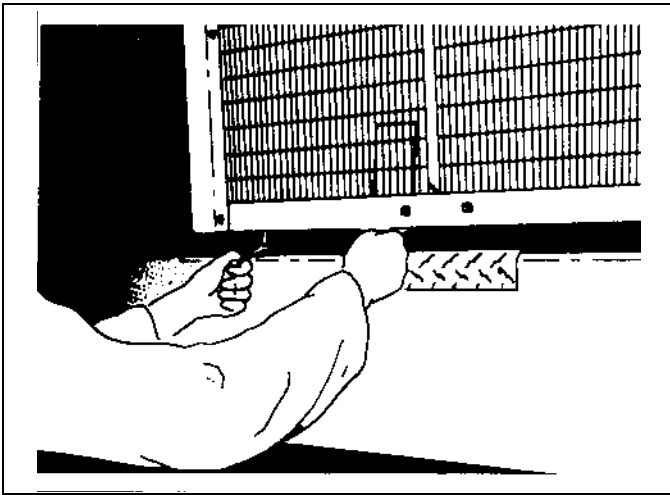

Figure 12-13 Linkage Adjustment
2. With an open-end wrench, screw the turnbuckle clockwise until the vanes begin to open slightly and the paper can be pulled from between the vanes with slight resistance. See Figure 12-13.